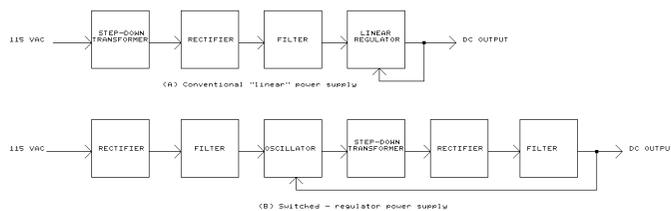

Fig. 2-1. Types of power supplies.
Switching power supplies are substantially smaller and more efficient than the old-fashioned "linear" power supplies. The block diagram of Fig. 2-1 shows the difference between the conventional linear supply and a switching supply.
The switched-regulator supply of Fig. 2-1 (B) is substantially more complex. It starts with a rectifier and filter, which directly change the incoming 115 volts AC into DC at between 110 and 150 volts. This DC then powers an oscillator, which generates a high voltage AC at a frequency of several kHz. This signal is then stepped down through the transformer, rectified, and then filtered.